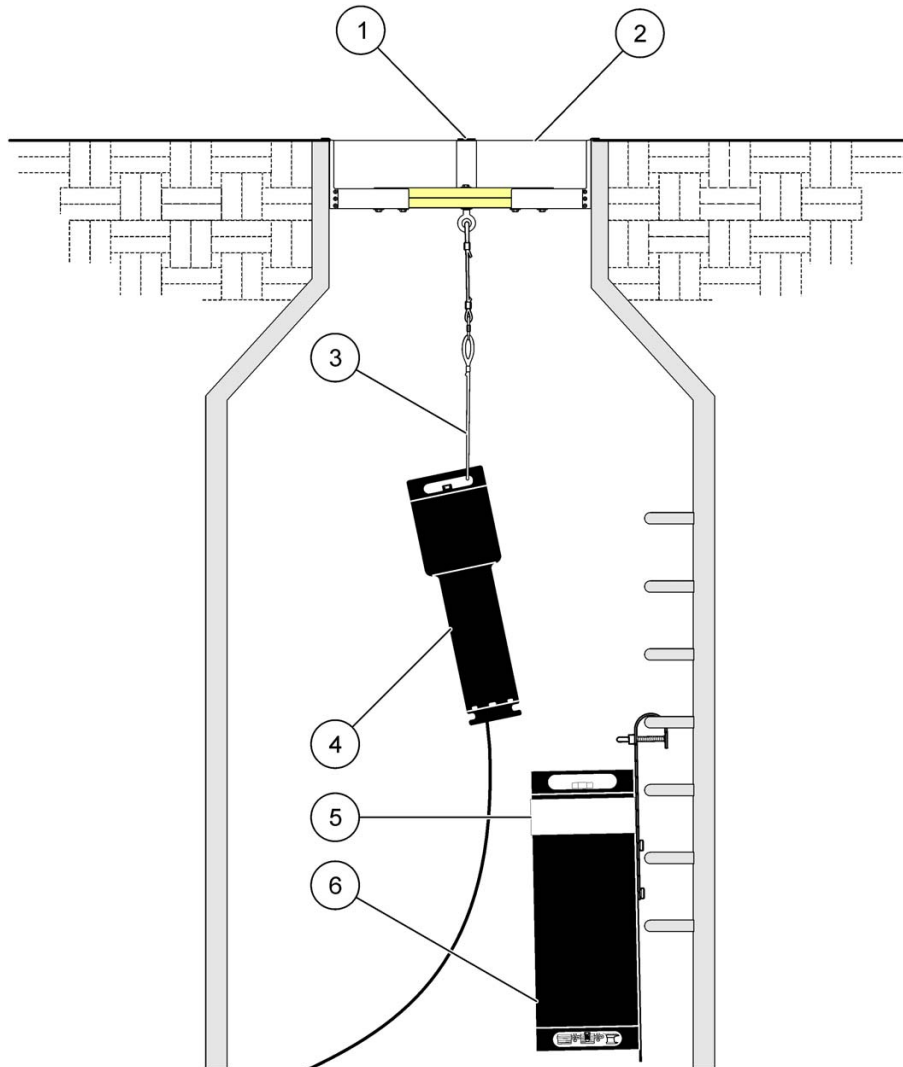

Figure 14 Installation options
- **Mount the meter so that the connectors face down.** The end of the meter that contains the batteries should face up. If the connectors face up, they may corrode and allow water to seep into the instrument. Refer to Figure 14 on page 29.